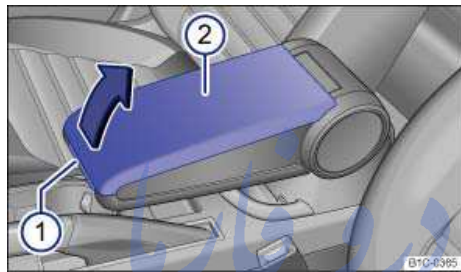

Fig. 102 Storage compartment in the front center armrest (if equipped).
To *open*, push the release button ⇒ fig. 102 (1) and raise the cover (2) of the center armrest in the direction of the arrow.